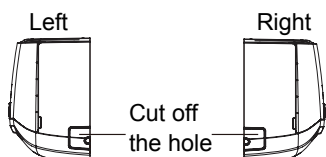

Fig. 4
(2) When selecting leading out the pipe from left or right, please cut off the corresponding hole on the bottom case. (As show in Fig.4)